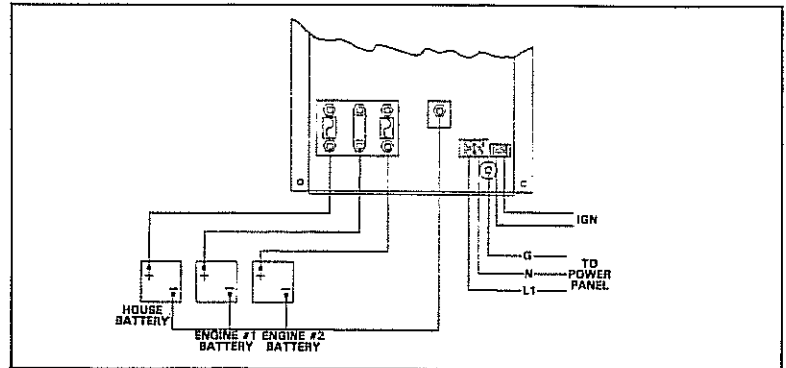

Figure 5. AC and DC Connections
2. Make AC connections. All Sentry chargers except 115V G330 models require #14 AWG wire with 105 °C insulation for use on AC connections and should be protected by a 15 AMP circuit breaker or time delay fuse. On 115V G330 models use #12 AWG wire with 105 °C insulation protected by a 20 AMP circuit breaker or time delay fuse. Wire terminations should be locking forks or ring terminals. See Figures 5 and 6.
3. Make battery connections. Connect the positive terminal of each battery to individual studs in the charger labeled "+ BATTERY." See Figures 5 and 6. Connect all battery negative terminals to the stud labeled "- BATTERY." Use ring terminals